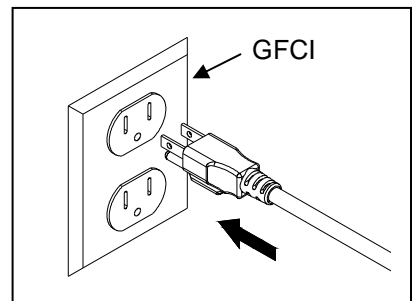

Fig. 3
3. Place the pump into the water and connect to a proper power source. Adjust flow control as required. Fig. 3